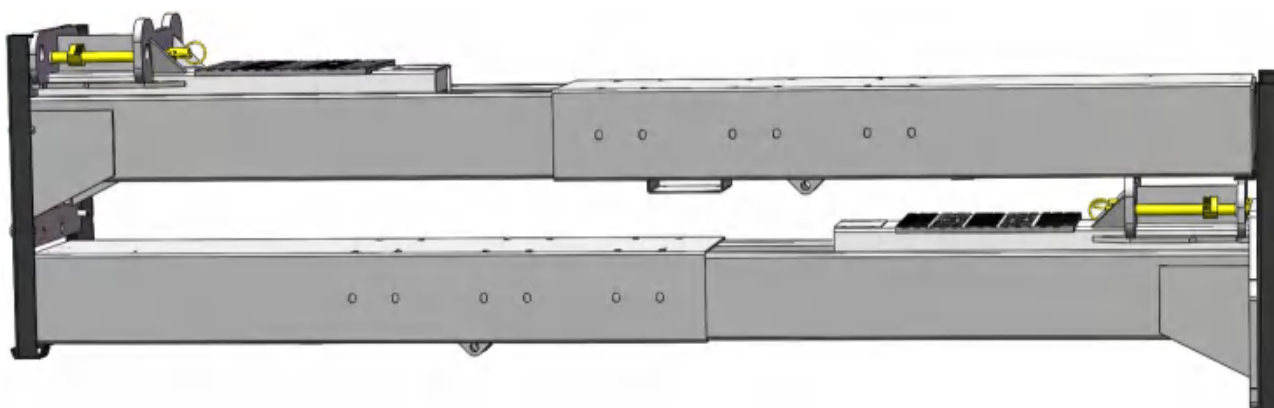

Fig. 12
3. Take out top beam, then move them aside to the installation position. **(See Fig. 12)**